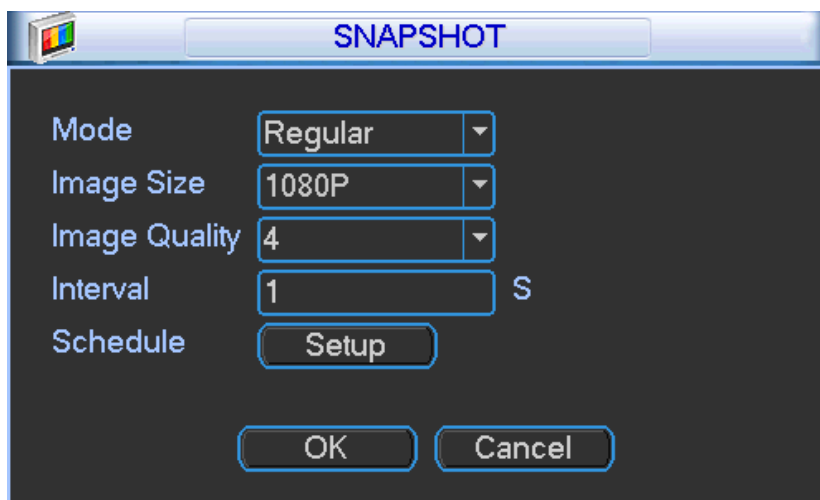

Figure 4-42
- Snapshot: Click snapshot button, you can set snapshot mode, picture size, quality and frequency. See Figure 4-42.